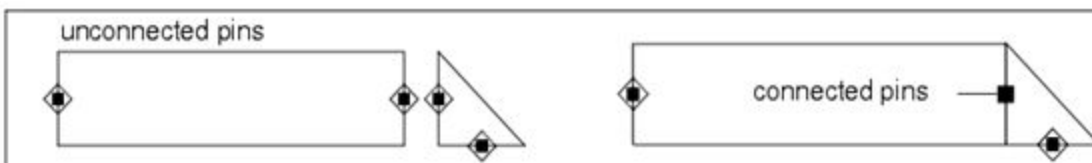

Figure 2:-how to connect to two components
- When a component is placed in the Layout window, note that each pin of component is outlined and glow in layout. When two pins of 2 different component are connected, the outline disappears. As described in following figure 2, review the highlight color of pins as well as the color of connections.